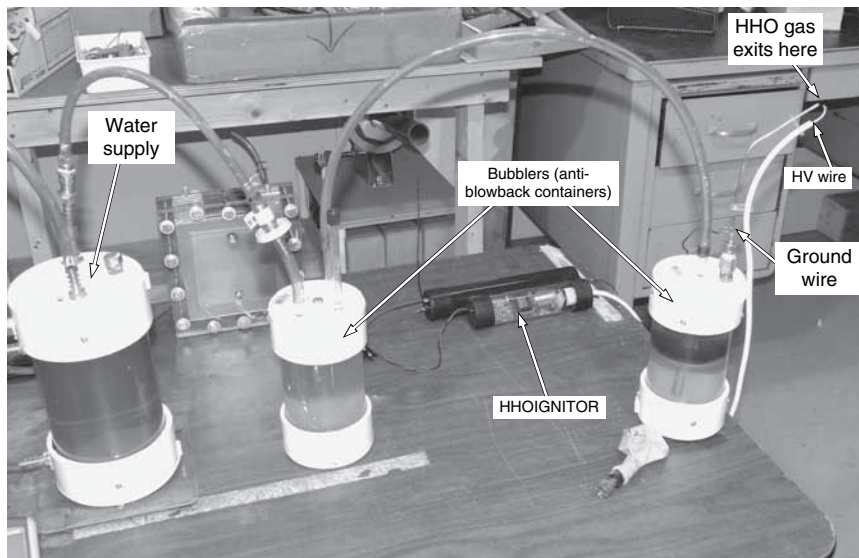

Figure 15-16 Bubblers and igniter.
Then the HHO gas flows through bubblers—two are used here to be extra sure in preventing any blowback (Fig. 15-16). Also note how the HHOIGNITOR (Chap. 16) has been attached to the exit tube, with the negative output connected to the copper tube and the positive high-voltage (HV) wire positioned to create a spark at the exit point and ignite the HHO gas as it leaves. The spark needs to be fired only once, after which the flame will burn as long as HHO gas is produced.